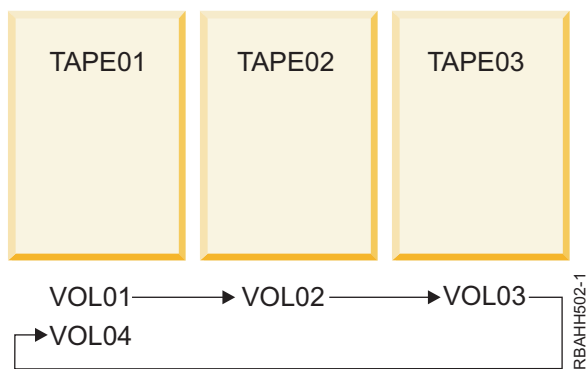

Figure 1. Multivolume-tape-data-file-sequence using three tape devices
- If you specify more than one tape device, then place the volumes on the devices in the sequence that is specified in the tape device file. Refer to the following reference: Figure 1. For example: